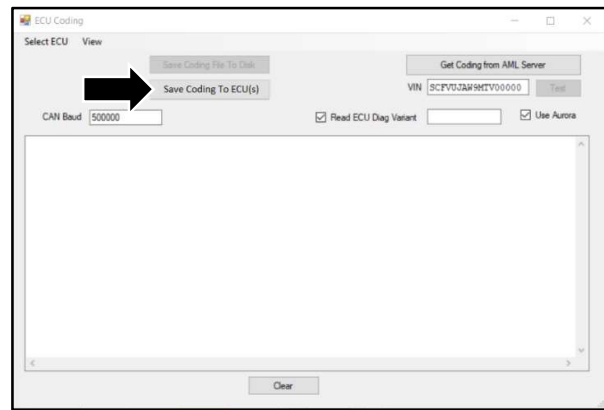

Figure 4
7. Select "Save Coding To ECU(s)" (refer to Figure 4).